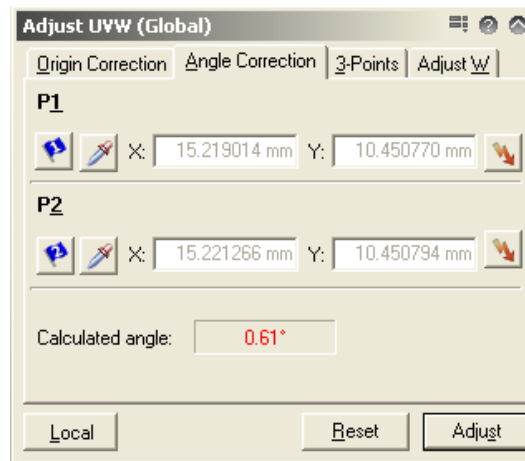

Figure 18: Angle correction of UVW correction.
- At this stage you may want to align the U-axis with the horizontal edge of your wafer. This can facilitate finding structures on your sample. You can do this with a Angle Correction in the Adjust UVW tab (see Figure 18). To do this, drive the stage to two points P1 and P2 along a horizontal edge of your sample (The further apart they the more precise the alignment). At the left most point use the ‘pipette’ button below P1 to read in the first X,Y coordinates. At the right most point use the ‘pipette’ button below P2 to read in the second X,Y coordinates. A correction angle is thus calculated. If you press ‘Adjust’ it will correct the UV coordinate system, so that the U-axis is then parallel to the line connecting P1 and P2. To align with existing structures on your sample you can use the more advanced 3-point alignment (please refer to the manual). ‘Adjust W’ Can be used to correct the working distance at all places on your wafer, if its surface is not completely parallel with the XY plane (i.e. the sample is not in focus at all places with the same working distance setting). (Again, please refer to the manual for this.) Also note that there are two different UVW coordinate systems - global and local - for now just use the global one. Again, to learn how to use the local one, refer to the manual.